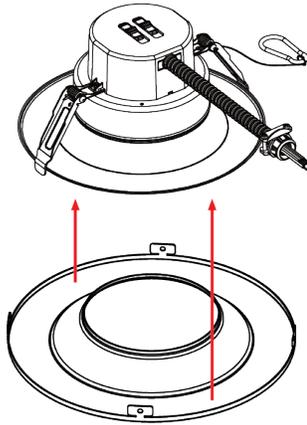

Fig. 11
1. Clamp trim ring over fixture trim. (Fig. 11)